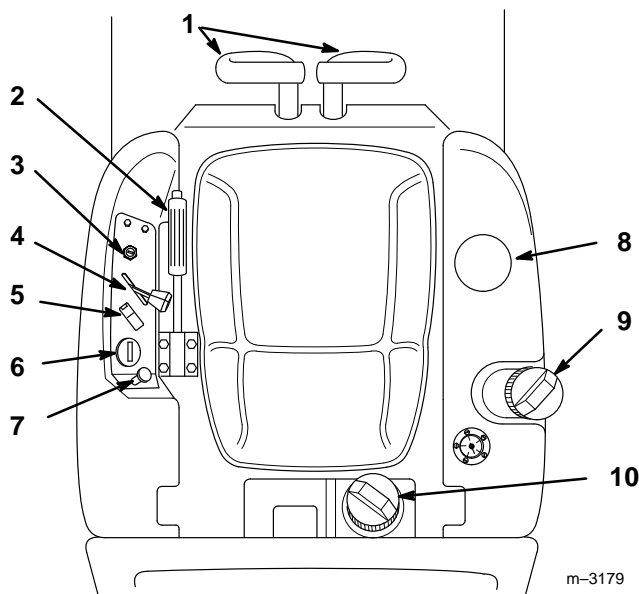

Figure 1
Become familiar with all the controls (Fig. 1) before you start the engine and operate the machine.
1. Move the motion control levers to the neutral (Fig. 1).